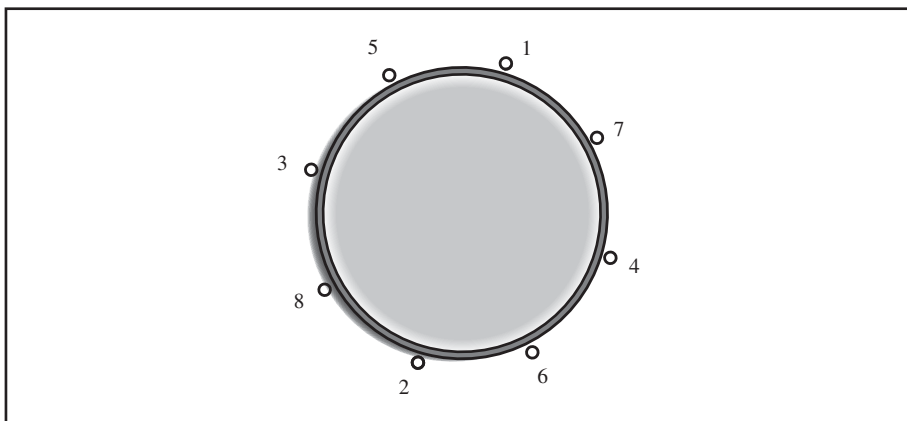

FIGURE 4.1
- (1) Use a proper drum key to remove the lugs.
- (2) Remove the old head from the snare.
- (3) Clean out any waste and wipe the rim clean with a rag.
- (4) Check for warpage on the rim by laying the drum upside down on a flat surface, turning out the lights, and shining a flashlight inside the drum to check for any gaps. If gaps exist, the drum can't be properly tuned. It needs to be looked at by a competent professional drum dude.
- (5) Seat the new head and connect each lugnut by hand.
- (6) Tighten the lugnuts like you would when changing a tire – not one after the other, but one then its opposite across the drum; for example, one o'clock, then seven o'clock, as shown in Figure 4.1. Twist each lugnut once, then twist the opposite one once with a single twist. Turn each lugnut gradually so the head tightens to the shell evenly. As the head tightens, lessen the amount of each turn. Expect cracks and crackle sounds. That is the head stretching. Press down on the drum as you tighten the lugnuts to really stretch the head across the rim. Sometimes drummers kneel or even stand on the snare drum head to stretch it.